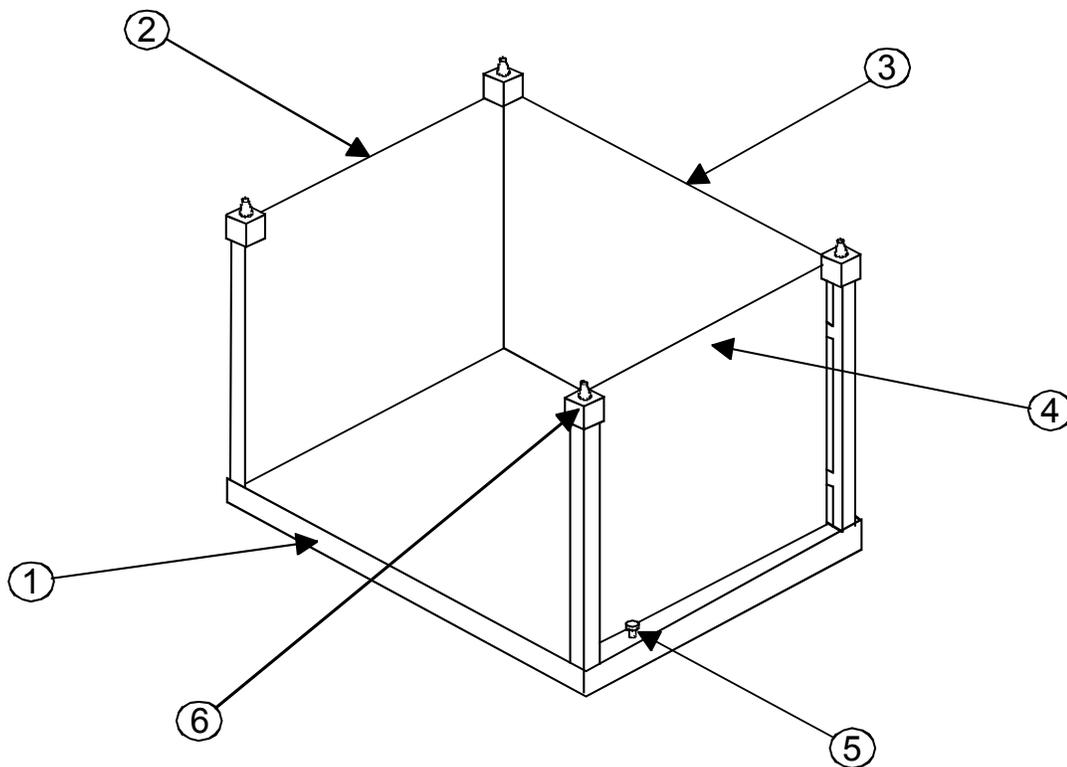
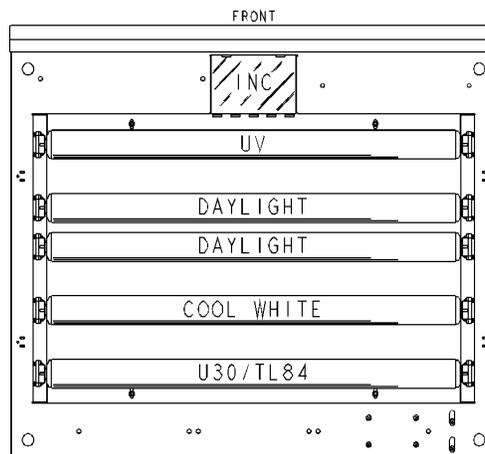

Figure 1 – Viewing Booth Assembly
Figure 2 – Lamp Replacement
1. Remove from storage and identify all items Figure 1. Note the order in which these items are removed. To pack the unit, you will have to replace each item accordingly.
6. Place a Tube Cap in each of the four (4) corners of the booth by sliding it into the notch(es) located at the top of each panel. Press the Tube Cap down to seat it.
7. Insert all fluorescent bulbs into the Housing Assembly using Figure 2 on the following pages.
2. Refer to Figure 2 below to follow the replacement configuration. Replace *all* lamps.